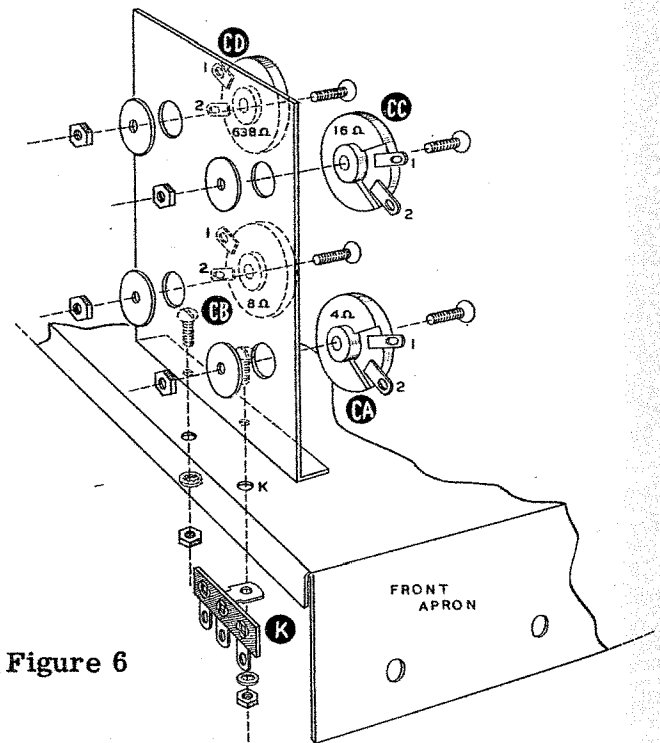

Figure 6
- (✓) Mount four power resistors on the bracket as shown in Figure 6. A 10-32 flat head screw goes through each resistor, the bracket, a large washer and 10-32 nut. Note that the resistors mount inside the bracket. Place the 4  $\Omega$  unit at CA, 8  $\Omega$  at CB, 16  $\Omega$  at CC and 638  $\Omega$  at CD. Bend the resistor lugs back slightly to prevent shorting to the bracket.